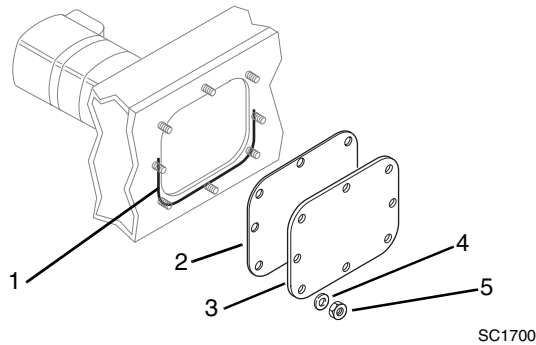

Figure 9-42 Access Cover Installation
33. Clean any sealer residue from the lower part of the access cover opening (Fig. 9-42, 1). Apply a new 1/8" bead of sealant (1) such as Permatex 2 RTV around the lower half of the opening.
34. Reassemble the cover gasket (Fig. 9-42, 2) and cover (3) to the side of the chain case using the lock washers (4) and new hex locknuts (5). Torque the eight locknuts to 14 lb/ft (19 Nm) to complete the inspection procedure.